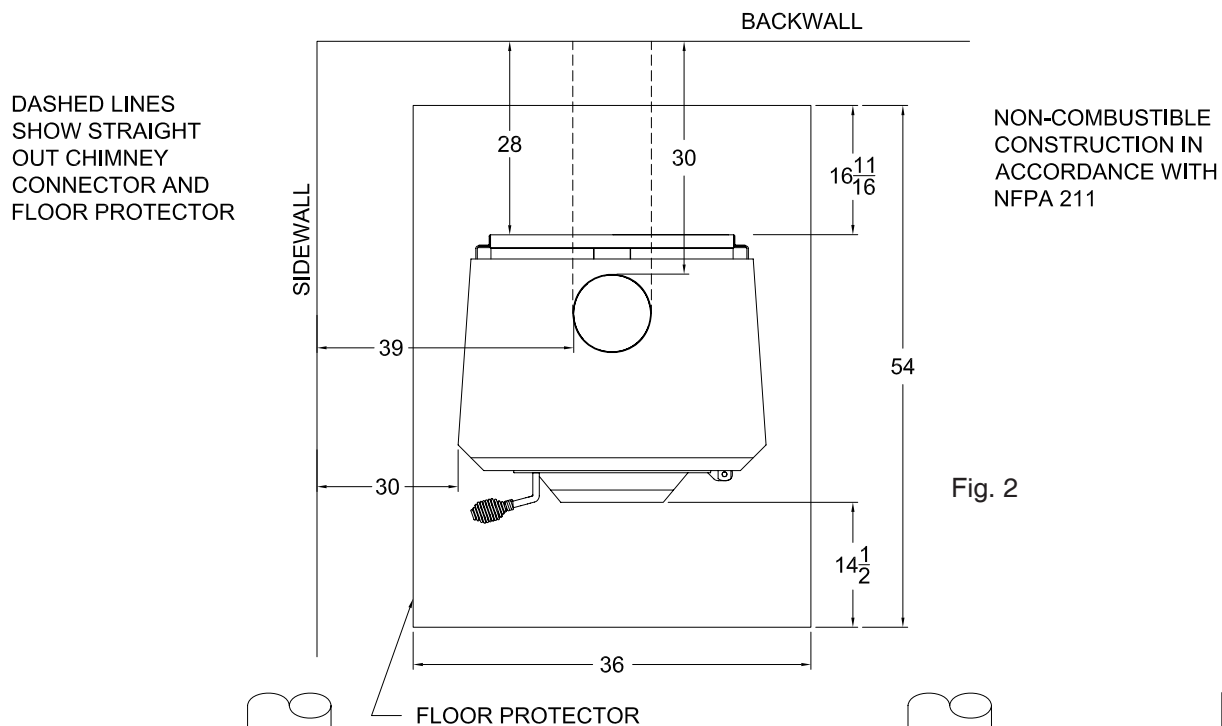

Fig. 2
3. Check Figures 2, 3, & 4. You should have at least the clearances shown from the heater and the connector pipe to combustible surfaces. If you have a solid brick or stone wall behind your heater, you can place the heater as close as you wish to the wall. If the wall is only faced with brick or stone, treat it as a combustible wall.